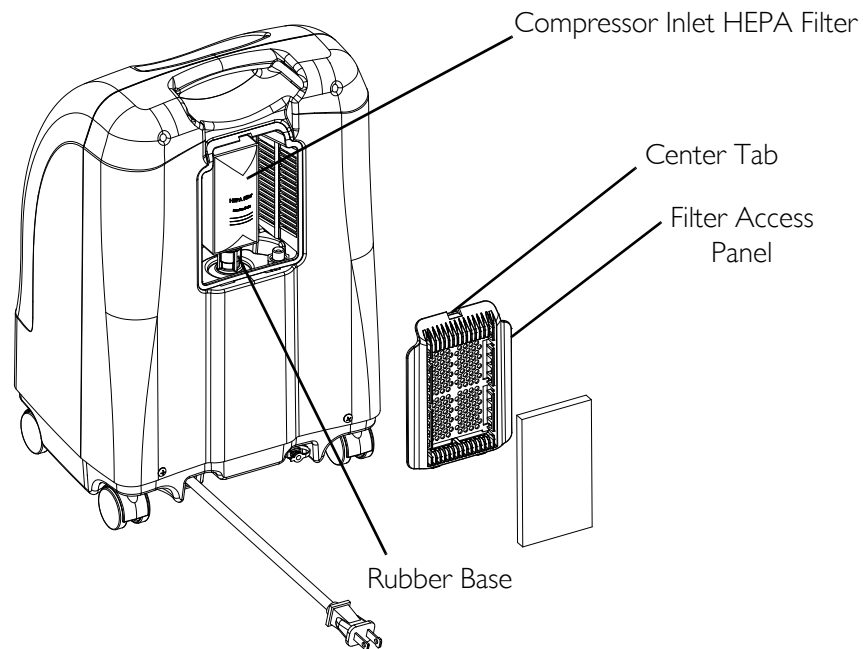

FIGURE 6.3 Replacing the Compressor Inlet HEPA Filter
3. For easier access to the outlet hepa filter, remove the compressor inlet hepa filter by grasping the compressor inlet filter, pull outward and up until filter is dislodged from rubber base (FIGURE 6.3).
NOTE: For this procedure, refer to FIGURE 6.3 on page 26.